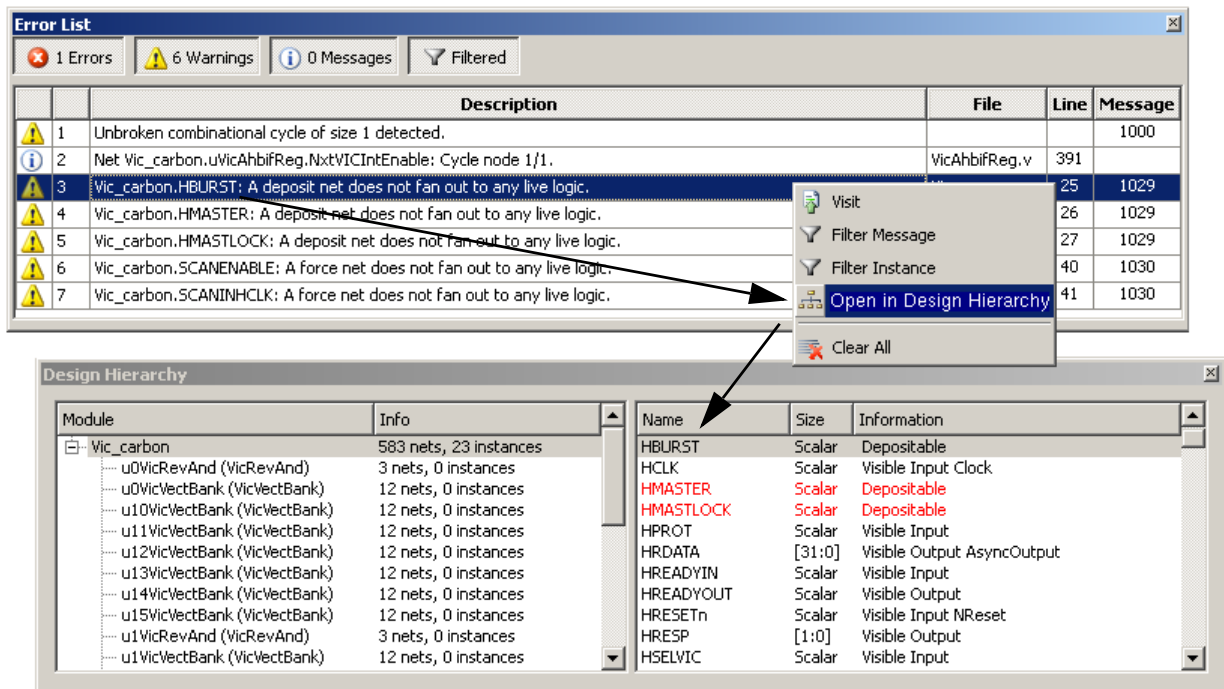

Figure 2-39 Error List Link to Design Hierarchy
5. Select the *Open in Design Hierarchy* option to see the hierarchical view of the item (Figure 2-39).